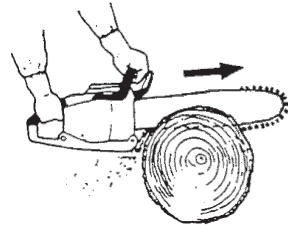

Fig. 18
- Never use the saw with only one hand. You cannot control the saw properly and you may lose control and injure yourself severely. Keep the saw body close to your body to improve control and reduce strain. When cutting with the bottom part of the chain the reactive force will pull the saw away from you towards the wood you are cutting. The saw will control the feeding speed and sawdust will be directed towards you. (Fig. 18)